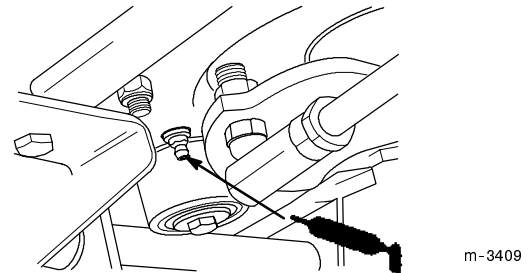

Figure 35
7. If your tractor has manual steering, put one pump of grease into the steering housing (from underneath the frame) (Fig. 35).